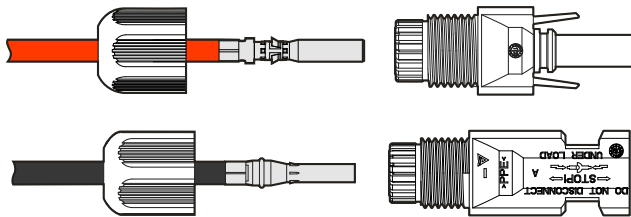

Figure3-19 Fasten the metal terminal
- Step 3 Insert the crimped positive wire and negative wire into corresponding insulation crust respectively. If there has a click sound, it means that the wire have been inserted properly, as shown in Figure3-19.